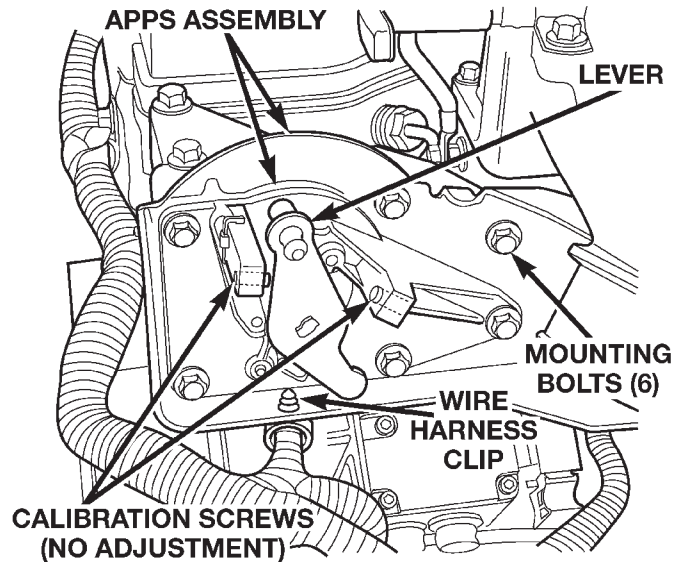
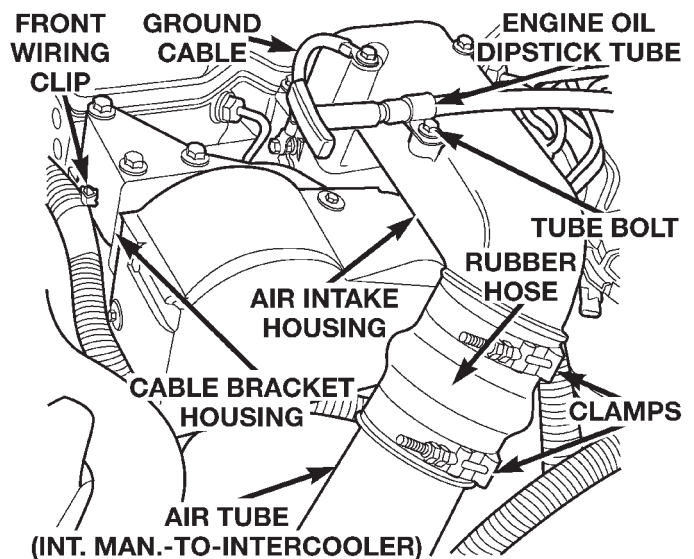
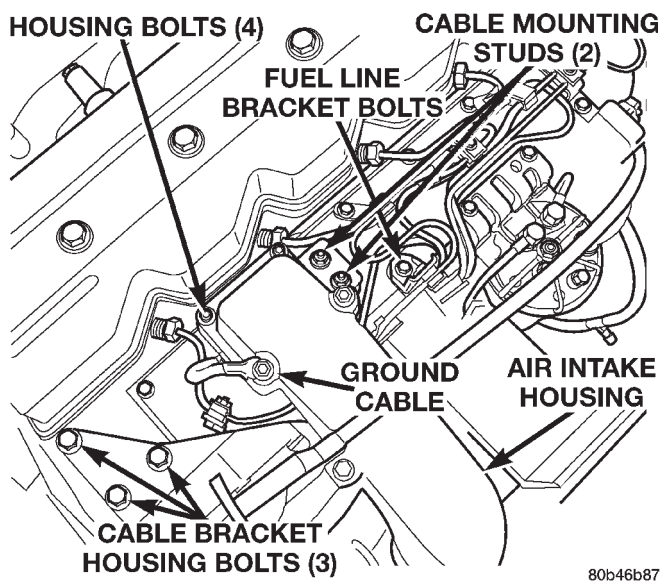

Fig. 55 Wiring Clip at APPS
Fig. 56 Air Tube
Fig. 58 Air Intake Housing
(4) Disconnect wiring harness (clip) at bottom of Accelerator Pedal Position Sensor (APPS) mounting bracket (Fig. 55).
(5) Using 2 small screwdrivers, pry front wiring clip (Fig. 56) from cable bracket housing. Position wiring harness towards front of engine.
(7) Disconnect 2 electrical cables from cable mounting studs (Fig. 58) at intake air heater on top of intake manifold.
(8) Remove engine oil dipstick from engine.
(9) Remove engine oil dipstick tube support mounting bolt (Fig. 56) and position tube to side.
(10) Disconnect clamps and remove air tube (intake manifold-to-intercooler) (Fig. 56).
(11) Remove 4 air intake housing mounting bolts and remove housing (Fig. 58). Position ground cable at top of air intake housing to front of engine.
(13) Remove 3 cable bracket housing mounting bolts (Fig. 58). Carefully position cable bracket and cable assembly to side of engine. **Leave cables connected to lever.**
(15) Remove bolts from all fuel injection line support brackets at intake manifold (Fig. 58).
(16) Place shop towels around fuel lines at fuel injectors. Do not allow fuel to drip down side of engine.
(10) Install engine lifting bracket at rear of intake manifold. Tighten 2 bolts to 77 N·m (57 ft. lbs.) torque.
(11) Install cable bracket housing/cable assembly and tighten 3 mounting bolts to 24 N·m (18 ft. lbs.) torque.
(12) Clean any old gasket material below and above intake manifold air heater element block. Also clean mating areas at intake manifold and air intake housing.
(13) Using new gaskets, position intake manifold air heater element block to engine.
(14) Install air intake housing and position ground cable. Install 4 mounting bolts (Fig. 58) and tighten to 24 N·m (18 ft. lbs.) torque.
(15) Install air tube (intake manifold-to-inter-cooler) (Fig. 56). Tighten clamps to 8 N·m (72 in. lbs.) torque.
(16) Install engine oil dipstick tube support mounting bolt (Fig. 56) and tighten to 24 N·m (18 ft. lbs.) torque.
(17) Install engine oil dipstick to engine.
(18) Connect 2 electrical cables to cable mounting studs (Fig. 58).
(19) Connect electrical connector to bottom of APPS by pushing connector upward until it snaps into position.
(20) Connect wiring harness (clip) at bottom of Accelerator Pedal Position Sensor (APPS) mounting bracket (Fig. 55).
(21) Connect front wiring clip (Fig. 56) to cable bracket housing.